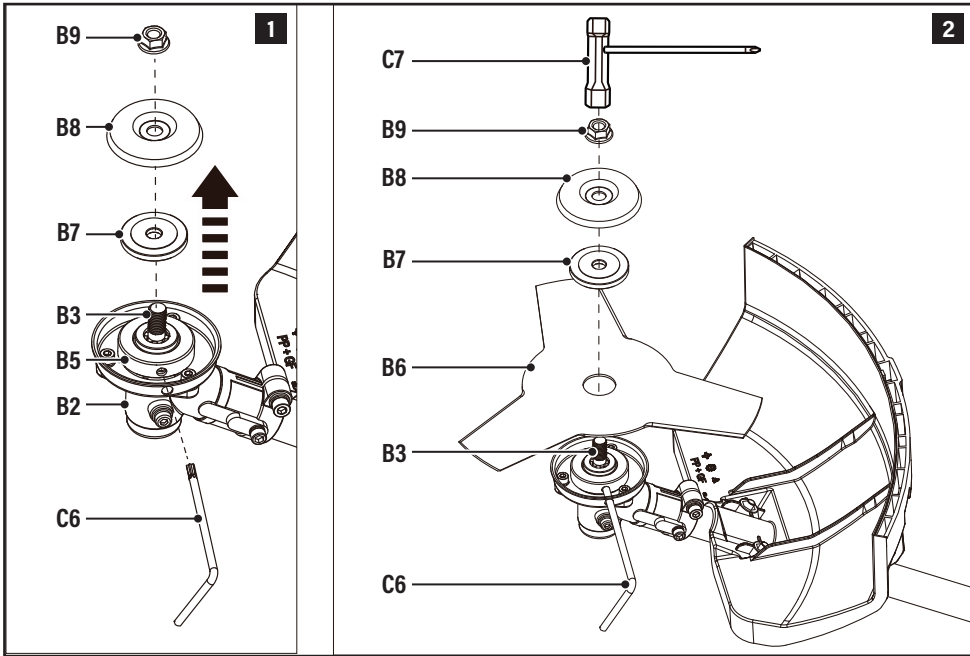

Fig. 6
7. Insert the multi-tool 1 (C6) into the hole to lock the rotation of the backing flange (B5) (Fig. 6, step 1).
8. Use the multi-tool 3 (C7) to loosen the securing nut (B9) by turning it clockwise (Fig. 6, step 1).
9. Remove the securing nut (B9), the front flange (B8) and the locking flange (B7) from the gear head (B2) (Fig. 6, step 1).
10. Place the tri-arc cutting blade (B6) onto the spindle (B3). The side with markings should be facing towards the gear head (B2) (Fig. 6, step 2).
11. Place the locking flange (B7), front flange (B8) and then the securing nut (B9) onto the spindle (B3). Use the multi-tool 3 (C7) to tighten the securing nut in anticlockwise direction to secure the parts in place 1 (Fig. 6, step 2).